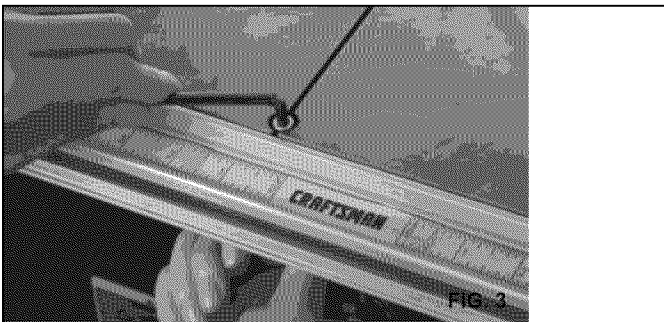

Figure 8 - Fasten Guide Rail
- Fasten the guide rail with four each wing screw and washer to the table. Use the hex socket head cap screw, washer and wing nut for correcting the working table flatness (see Figure 8).